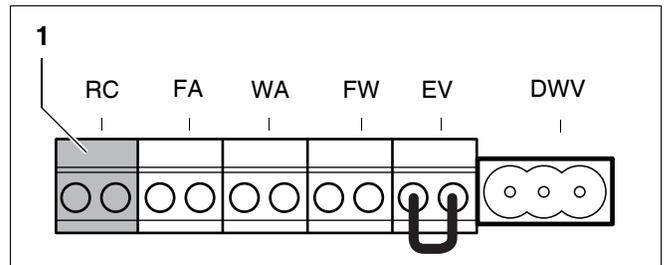

Fig. 41 External connection board - Room controller RC and EMS bus (connection color orange)
- Connect the EMS bus connection cable to the orange RC connection of the external connection board (fig. 41, pos. 1).